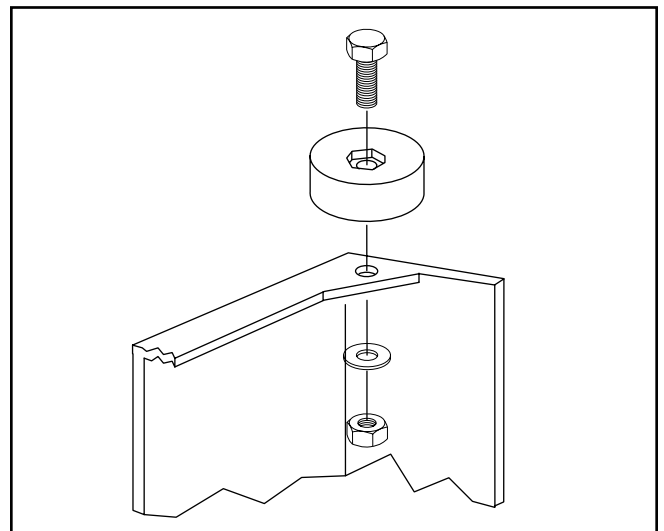

Figure 3. Attach rubber feet first.
1. Start with the stand panel with the switch mounted in it. Turn the panel upside down and attach the rubber feet using (2) 1/4"-20 x 1" Phillips® head screws, (2) flat washers and (2) hex nuts provided. Tighten down. **See Figure 3.** Repeat this step with the second stand panel.